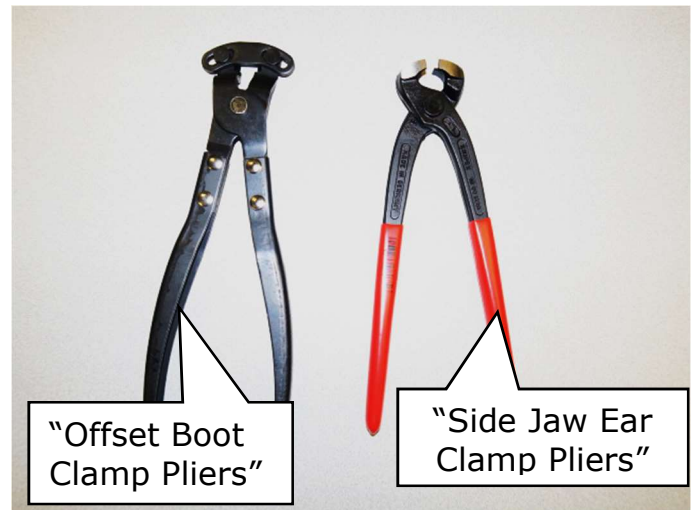
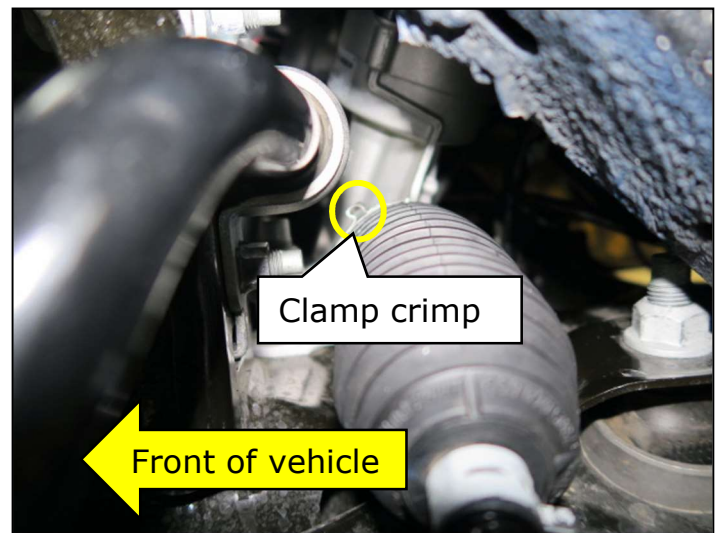

Figure 10
Figure 11
- Using a suitable tool (similar to the tools shown in Figure 10) crimp the new large boot clamp (Figure 11)
<p>11. Reinstall the wheel and tire assembly. (Figure 11)</p> <ul style="list-style-type: none"> • Torque lug nuts to 113 N•m (12 kg-m, 83 ft-lb) • Install wheel cover (if applicable) 	 <p>Figure 11</p>